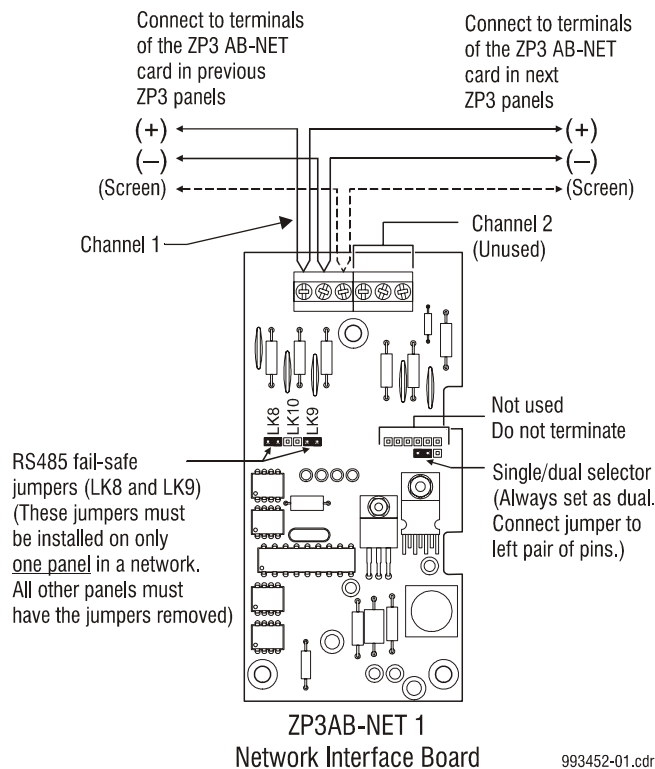

Figure 2
7. Configure the fail-safe jumpers. At one ZP3 panel, the wiring must be terminated. This is done by connecting the jumpers as shown (Fig 2). All other panels must not be terminated, i.e. their jumpers must be removed.